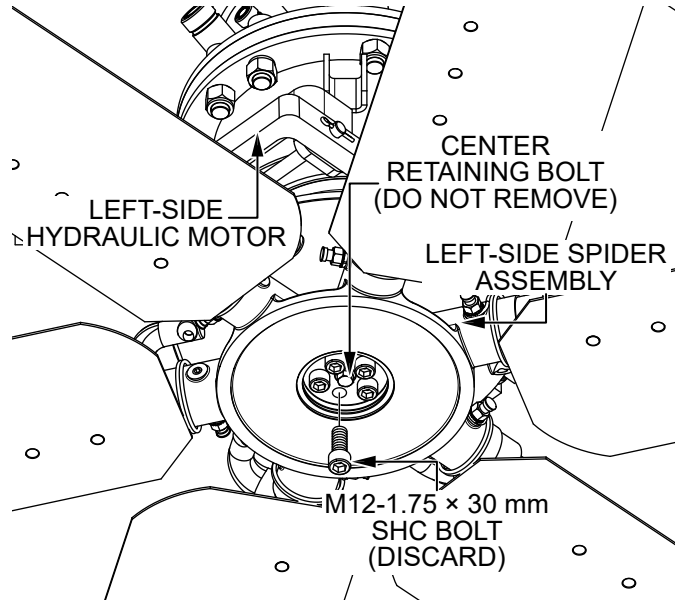

Figure 73. Remove Left-Side Spider Bolts
2. Remove and discard the five existing M12-1.75 x 30 mm SHC bolts (Figure 73) securing the left-side spider assembly to the bottom of the left-side hydraulic motor.